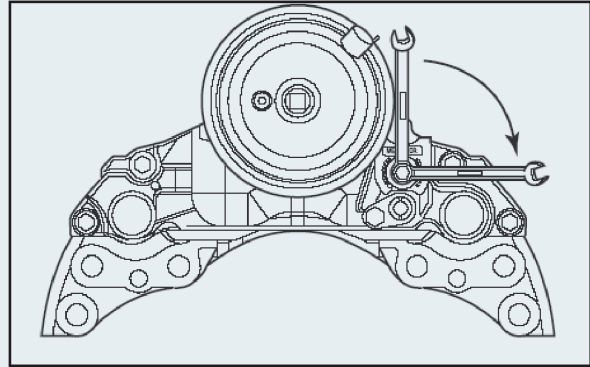

Figure 25
- De-adjust the brake 1/4-turn with a box end wrench. If the brake does not de-adjust, the adjuster mechanism is not functioning properly and may need replacement. (See **Figure 25.**)